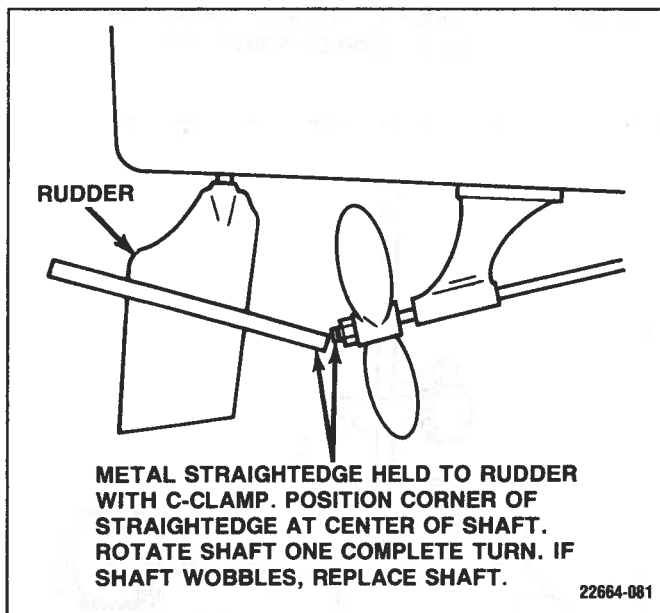

Figure 11-14. Checking For Bent Shaft
2. Check propeller shaft being bent behind the strut (Figure 11-14).